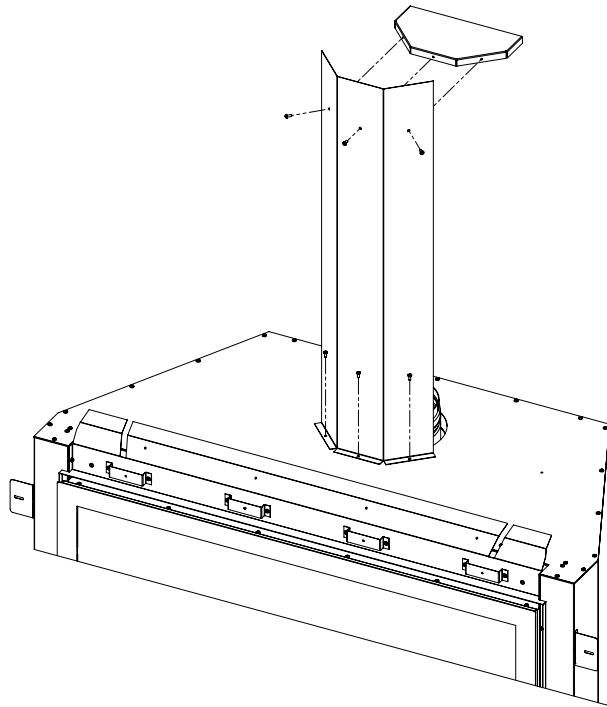

Figure 35: Vent Shields
All vent configurations require installation of the vertical vent heat shield. Remove the three (3) T-20 screws from their respective locations and use to secure the shield in position (see Figure 35).
The horizontal vent heat shield is only required for minimum vertical rise vent configurations. Use three (3) supplied T-20 screws to secure it to the vertical vent heat shield (see Figure 35).